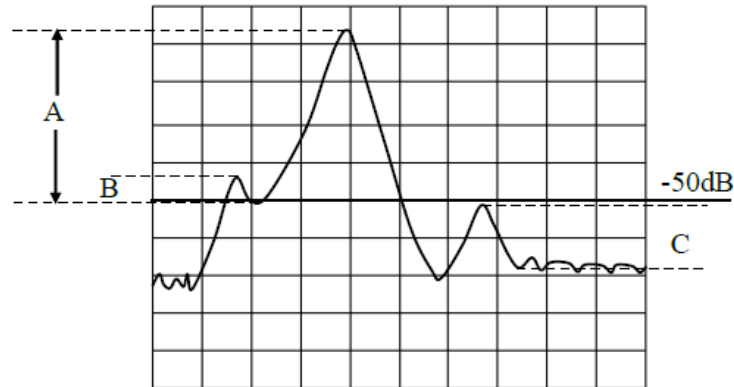

Fig. 3.51 Schematic Diagram of Peak in Marker Domain
- **Filter test:** the analyzer has a special shortcut function to test the filter, and all test parameters will be automatically displayed on the screen so that the user can directly observe measurement results. As manual setting in the test is eliminated, the velocity of filter test is greatly increased. As shown in Fig. 3.51.